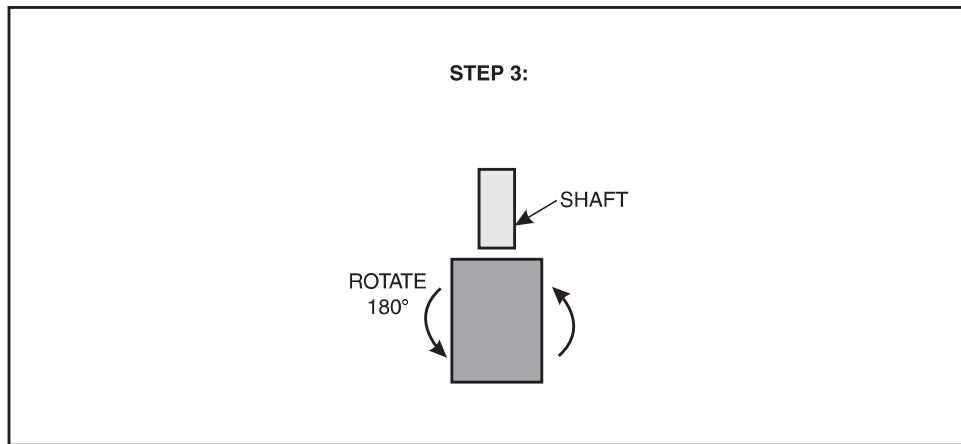

Figure 1-8. Rotate Float Device
C. Rotate the float device 180° (end over end), as shown in figure 1-8.